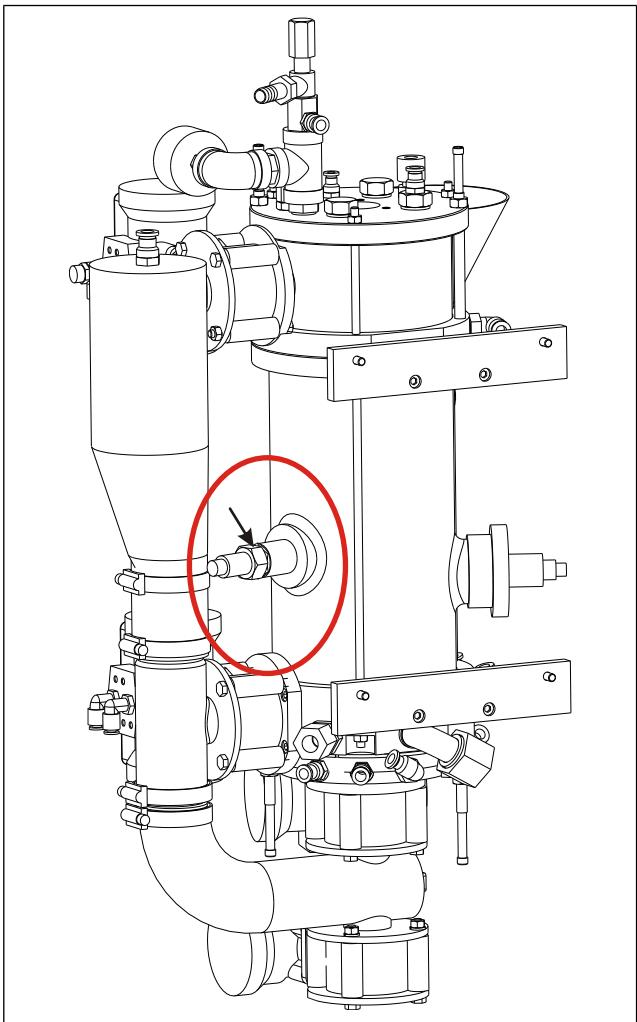

Fig. 22. Replacing the washing chamber level switch.
2. Turn the sensor clockwise to release it from the chamber (Fig. 22).